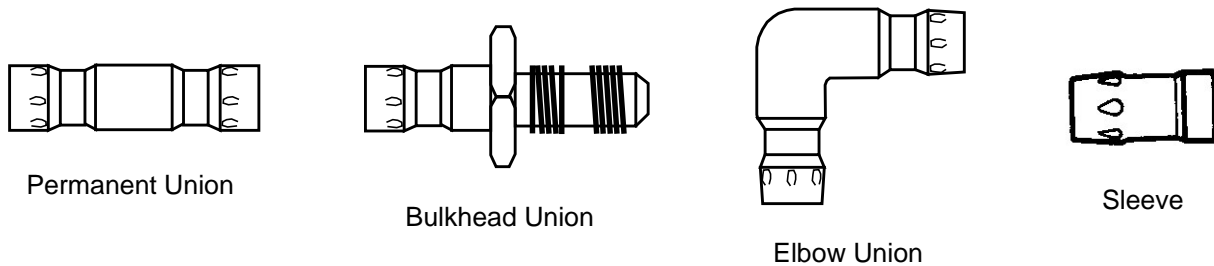
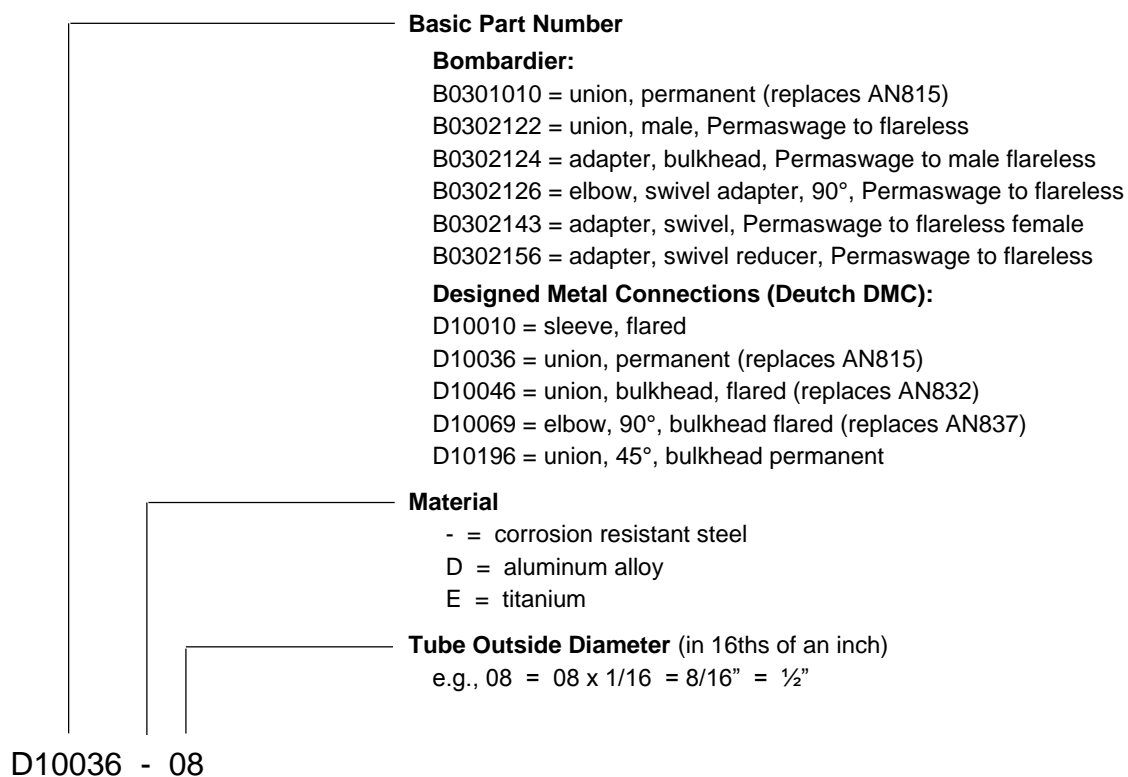

Figure 1. General Description of Externally Swaged (Permaswage Type) Fittings
Figure 2. Breakdown of Externally Swaged (Permaswage Type) Fitting Part Numbers
- 4.1.2 Externally swaged (Permaswage type) fittings as specified on the engineering drawing. See Figure 1 for a general description of externally swaged (Permaswage type) fittings. See Figure 2 for a breakdown of externally swaged (Permaswage type) fitting part numbers. For DASH 8 aircraft and Learjet 45 wing assemblies, applicable B030XXXX externally swaged (Permaswage type) fittings shall be installed according to this PPS, even if the B030XXXX specification specifies installation according to BAPS 174-017.